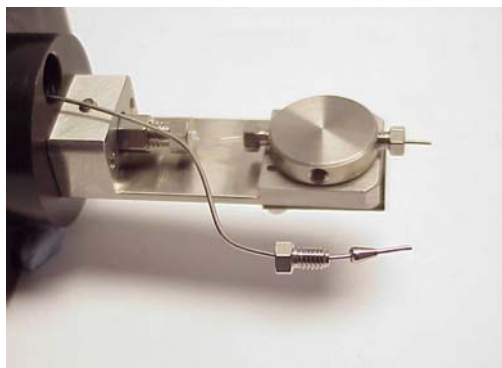

Figure 8-10 Reference Probe Nebulizing Gas Tube
- d. Disconnect the reference probe nebulizing gas tube (Figure 8-10).